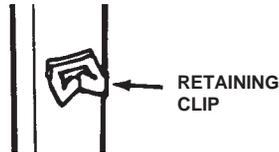

Figure 2
**STEP 4.** Insert retaining clip into hole just below download connection. See Figure 2.